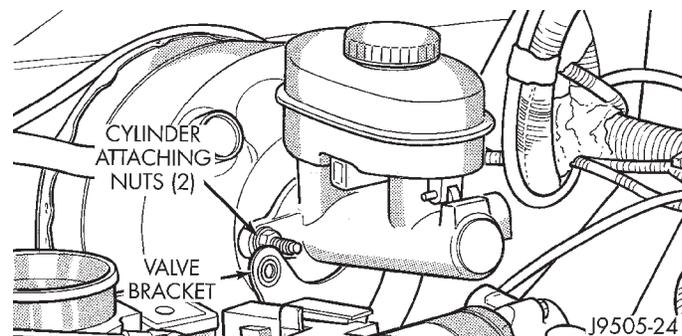

Fig. 23 Master Cylinder Mounting
(1) Remove brake lines from master cylinder.
(2) Remove combination valve.
(3) Remove nuts that attach master cylinder to booster studs (Fig. 23). **Retain nuts as they are special locking types.**